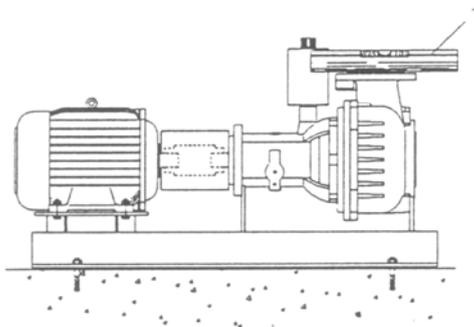

Fig. 7.2
- flanges straight horizontal and vertical see fig. 7.2 pos. 1.